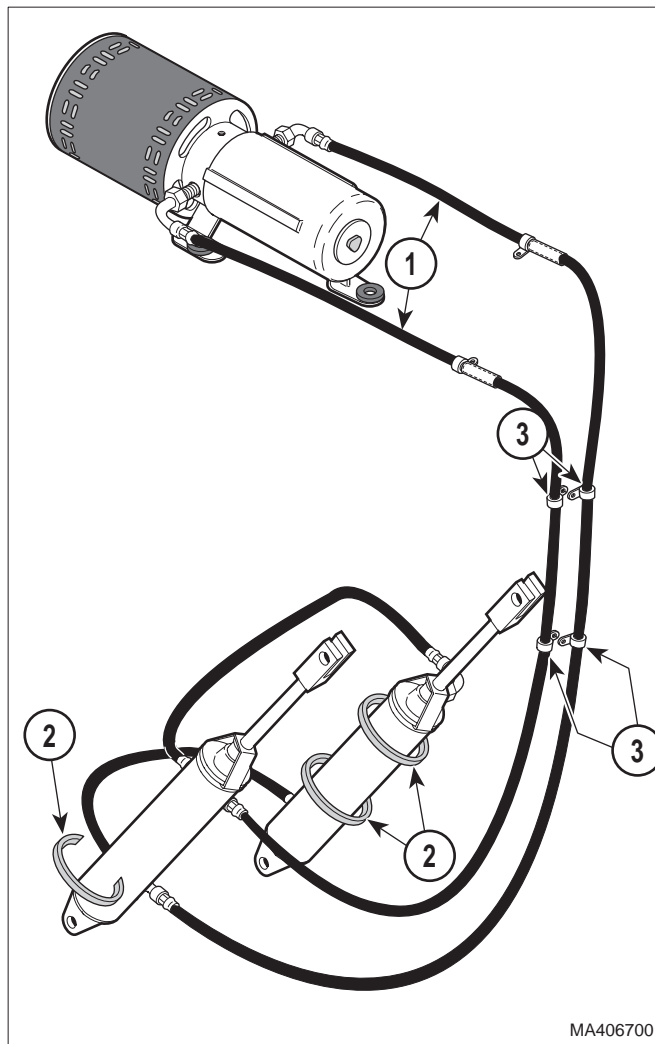

Figure 4-18. Hydraulic Return and Power Hose Removal / Installation
- (9) Place location tags on the hydraulic hoses (1, Fig. 4-18) for later reassembly. Also, note the location of the cable ties (2) and wire clips (3) that secure the cylinder hoses and electrical leads to insure they are installed in the same exact locations.
- (1) Lay the old and new hose assemblies next to each other and transfer the location tags, cable tie and wire clip location marks from the old hose assembly to the new hose assembly.
- (2) Place the new hose assembly in position on the table and connect the hose fittings to the respective components. If necessary, refer to Hydraulic Schematic para 5.1.
- (3) Install the cable ties (2, Figure 4-18) and wire clips (3) at the exact position of the locations marks placed on the hose assembly (1).
- (7) Place location tags on the hydraulic hoses (1, Fig. 4-18) for later reassembly. Also, note the location of the cable ties (2) and wire clips (3) that secure the cylinder hoses and electrical leads to insure they are installed in the same exact locations.